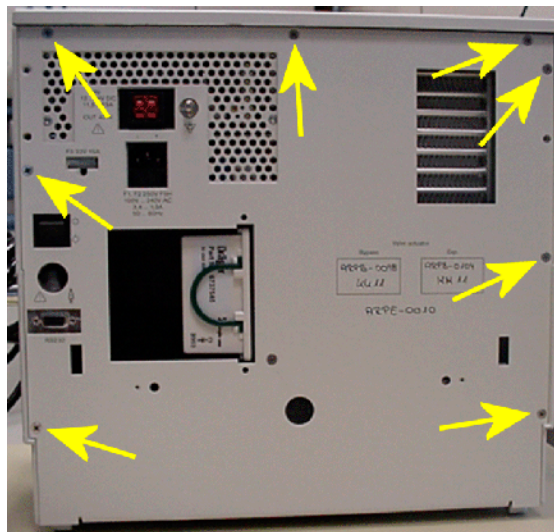

Figure 18 Rear panel fixing screws
6. Remove the screws from the rear panel (Figure 18).